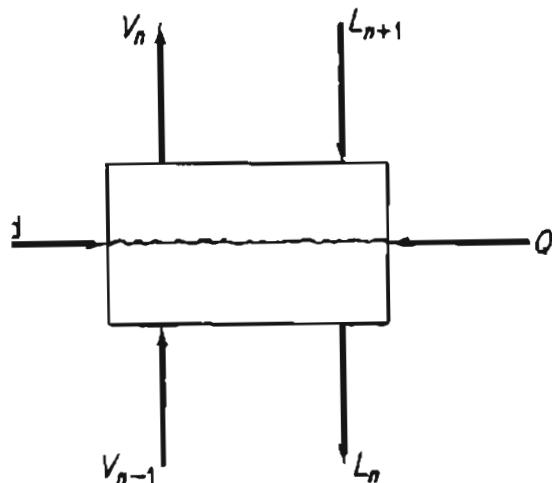

Figure P30.3
- 30.3** If to the equilibrium stage shown in Example 6.1 you add a feed stream, determine the number of degrees of freedom. See Figure P30.3.